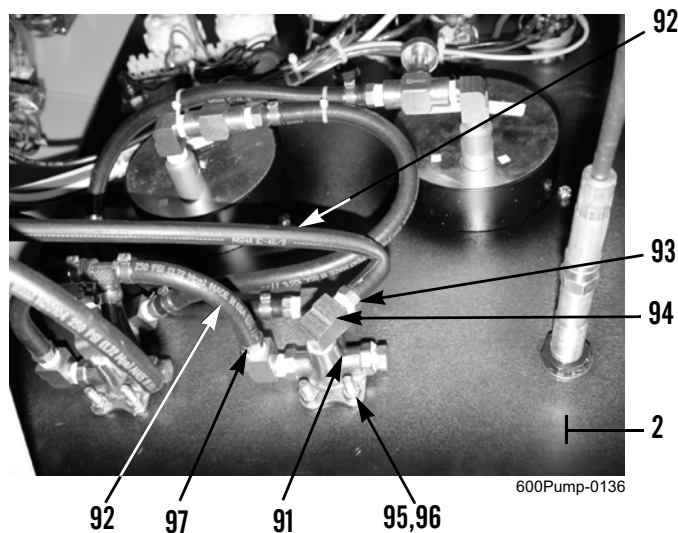

Figure 28. Suction Gauge Drain.
2. Cut three hose clamps (Figure 28, Item 97), hold three hoses (Figure 28, Item 92), and remove barb fittings (Figure 28, Item 93) from three elbows (Figure 28, Item 94). Discard hose clamps.
3. Remove three elbows (Figure 28, Item 94) from suction gauge drain (Figure 28, Item 91).
4. Remove two locknuts (Figure 28, Item 95), bolts (Figure 28, Item 96), and suction gauge drain (Figure 28, Item 91) from panel (Figure 28, Item 2). Discard locknuts.
1. Install suction gauge drain (Figure 28, Item 91), two bolts (Figure 28, Item 96), and new locknuts (Figure 28, Item 95) on panel (Figure 28, Item 2).
2. Install three elbows (Figure 28, Item 94) on suction gauge drain (Figure 28, Item 91).
3. Position three new hose clamps (Figure 28, Item 97) on hoses (Figure 28, Item 92). Hold hoses and install three barb fittings (Figure 28, Item 93) on elbows (Figure 28, Item 94). Tighten hose clamps.